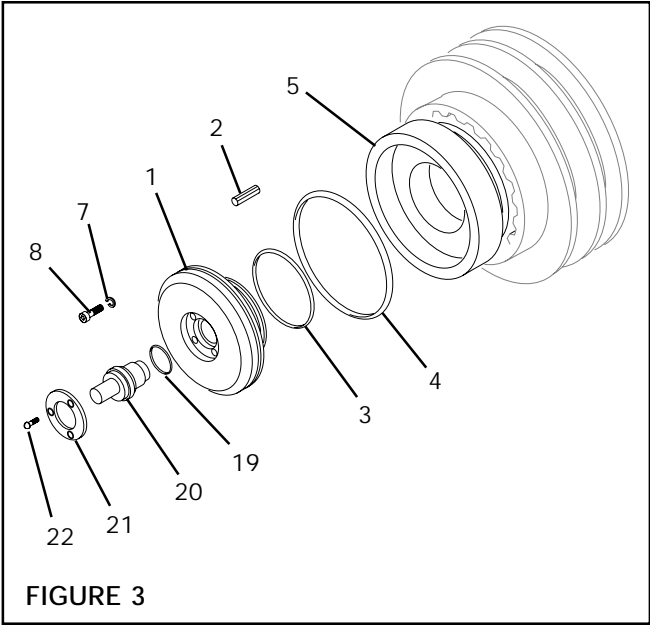

FIGURE 3
2. Remove three Slotted Pan Head Screws (Item 22) (See Fig. 3).
3. Remove Retaining Washer (Item 21) (See Fig. 3).
4. Remove Rotary Air Union (Item 20), and Rotary Air Union Seal (Item 19) (See Fig. 3).
5. Remove four Socket Head Caps Screws (Item 8) and Lock Washers (Item 7) (See Fig. 3).
6. Remove Piston (Item 1) from Cylinder (Item 5) (See Fig. 3).
7. Remove O-ring Seals (Items 3 & 4) (See Fig. 3)
11. Slide Piston (Item 1) with new O-rings Seals (Items 3 & 4) into Cylinder (Item 5) (See Fig. 3).